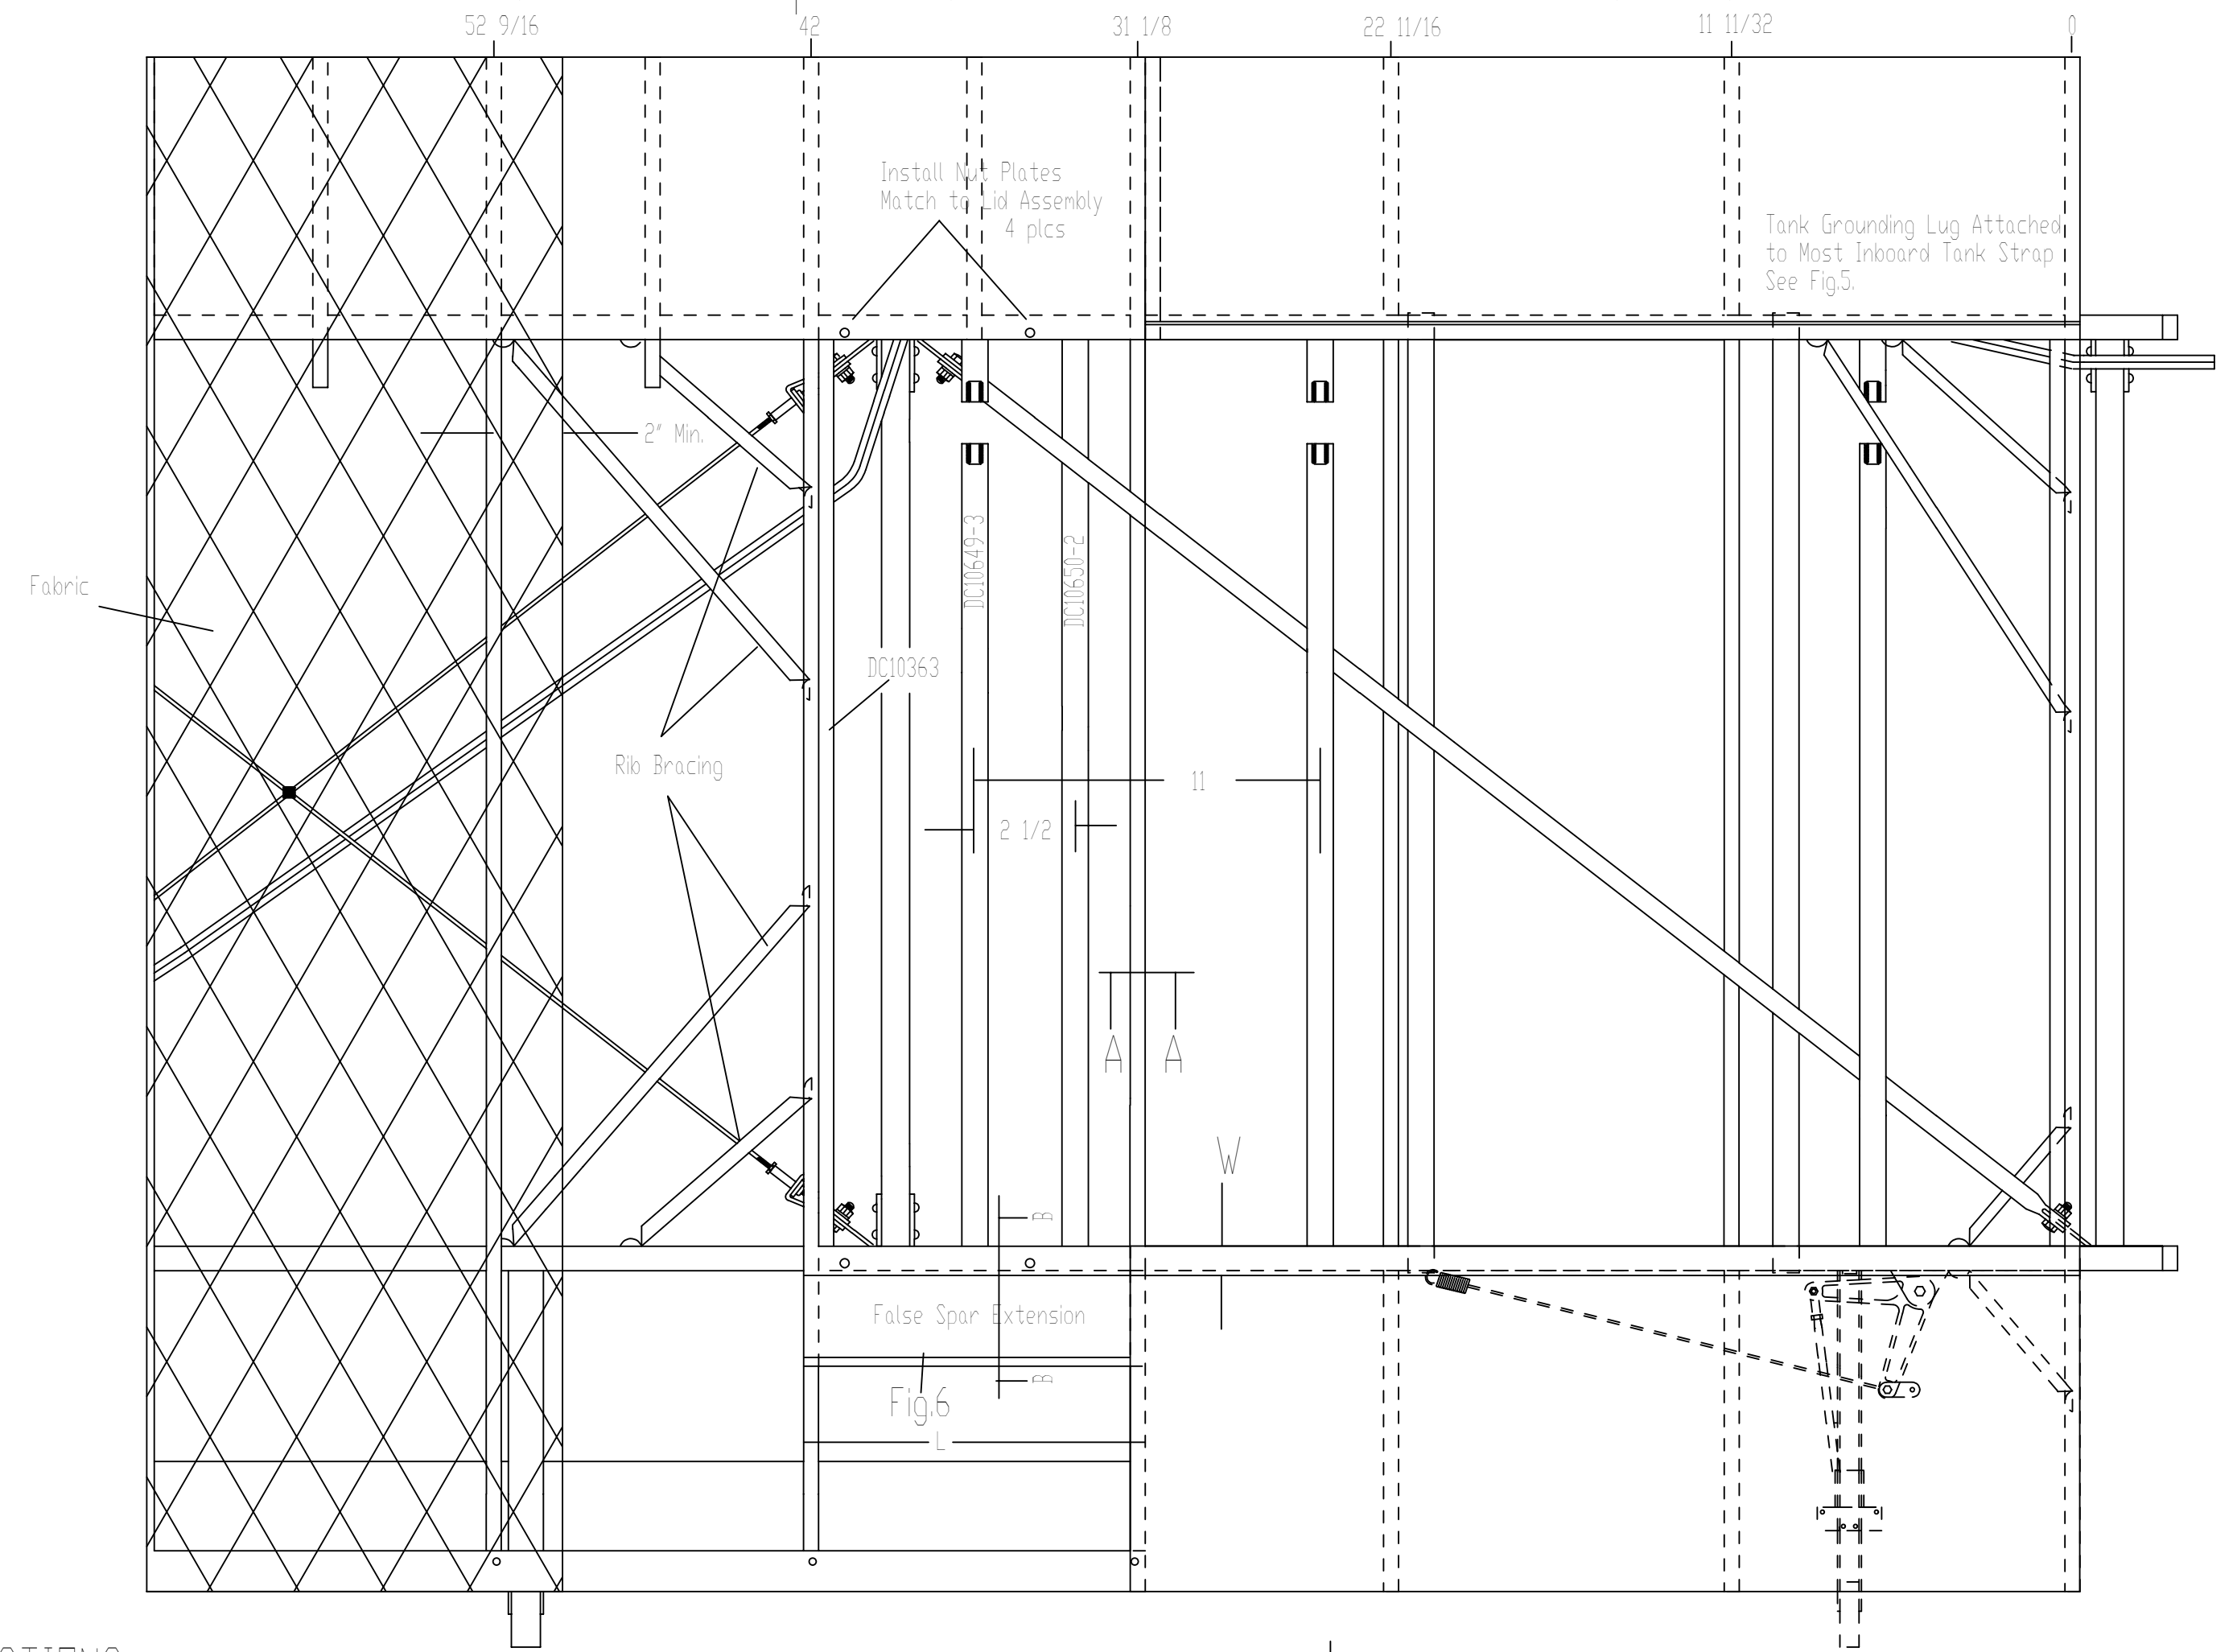
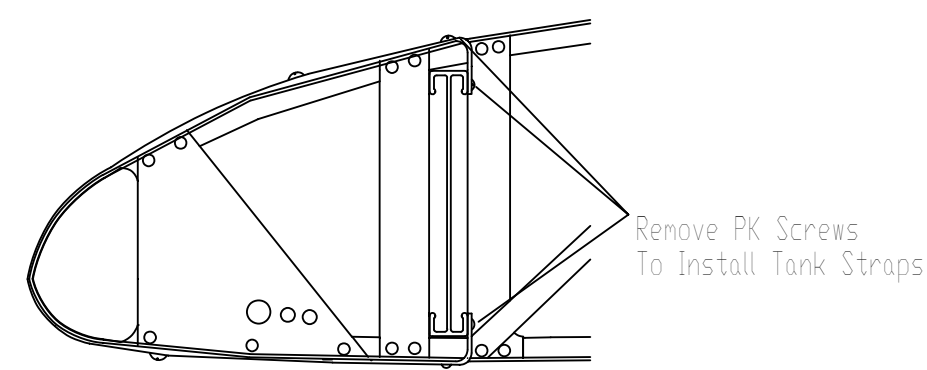

Fig.2
Fig.7
- 4- Install Tank Straps as shown in Fig.5. Drill .191 holes at a distance of 11 1/2" from centerline of existing straps (Fig.2). The leading edge and false spars screws must be removed at the spar caps (Fig.7) to facilitate tank strap installation. It is best to install the false spar extension (Fig.6) and reinstall the cable fairlead bracket (Fig.8) at this time. Glue Anti-Chaff Felt to tank straps.